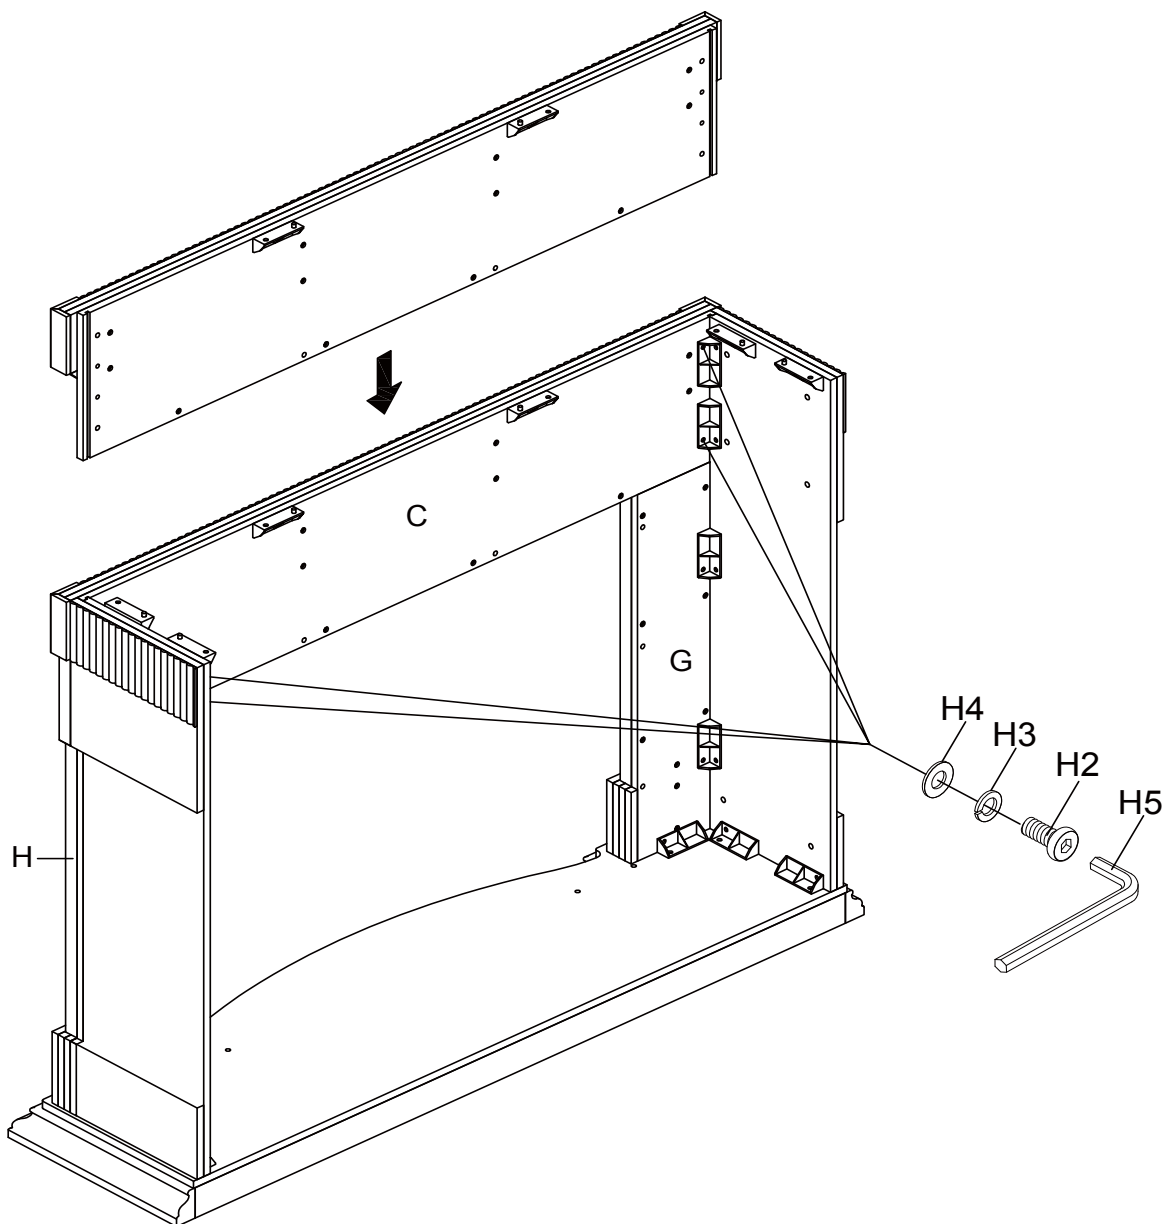

Figure 4
With assistance from another adult, insert the tenons of Left Side panel (E) and Right side panel (F) into the corresponding holes of the Front panel (C). Panels may need to be slightly adjusted to be inserted into the proper holes. Secure the Front panel (C) to Left Side panel (E) and Right side panel (F) with Short bolt (H2), Spring washer (H3), Flat washer (H4) using Allen wrench (H5) as shown in figure 4. DO NOT fully tighten bolts at this time for later adjustment.